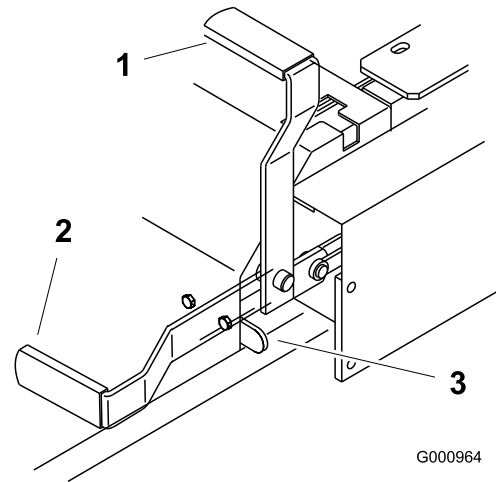

Figure 12
2. Pull up and back on the parking brake lever to set the parking brake (Figure 12). The parking brake lever should stay firmly in the engaged position.
Push forward and down on the parking brake lever to release the parking brake (Figure 12). The parking